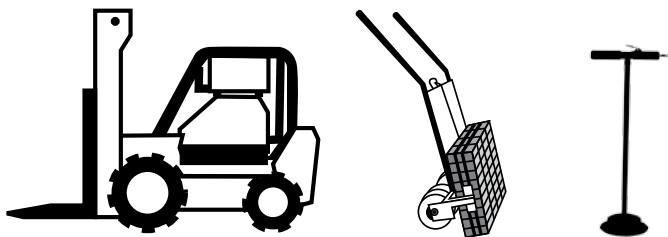

Figure 20. Fork lift and paver cart used to bring pavers to laying face.
*Efficiency* - Efficient handling of the pavers will affect the length of time taken to complete the job. Even though using a wheelbarrow or dolly to move pavers is a common practice, it is much easier to move the pavers with fork lifts or paver carts (Figure 20). Products that are packaged in sections allow them to be used to “peel” off stacks of pavers from the bundles (usually 7-10 pavers high) at once. These tools will significantly increase the efficiency of the installation process.